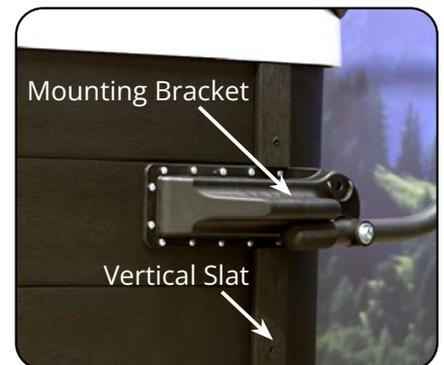

Figure 1c
For the cover lifter to be installed on an Alpine model, two of the spa pool's vertical slats must be removed and altered (cut) as they sit in the way of the mounting brackets (H) - see 'Figure 1c' for finished install example.
Each vertical slat should be cut into two separates pieces to fit back onto the cabinet panel and sit flush around the mounting bracket for a tidy appearance as per 'Figure 1c'.